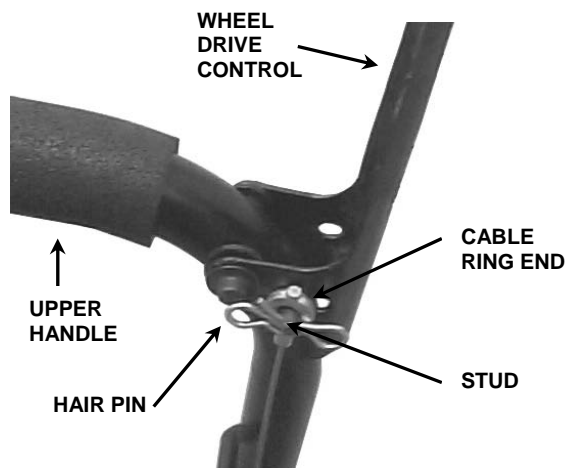

FIGURE 3
STEP 7: Remove hairpin from cable mounting stud on back of wheel control lever. Slip ring end of cable onto stud, and replace hair pin. See Figure 3.